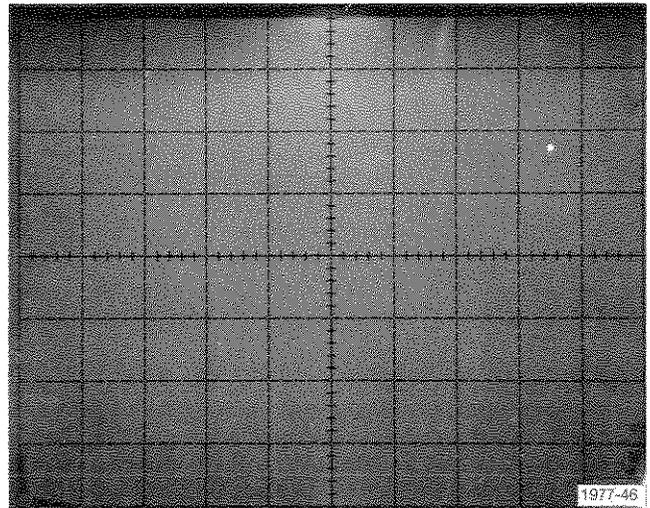

Fig. E-10. Graphing + supply current.
- c. Check the resulting display (see Fig. E-10) against the manufacturer's specification sheets.